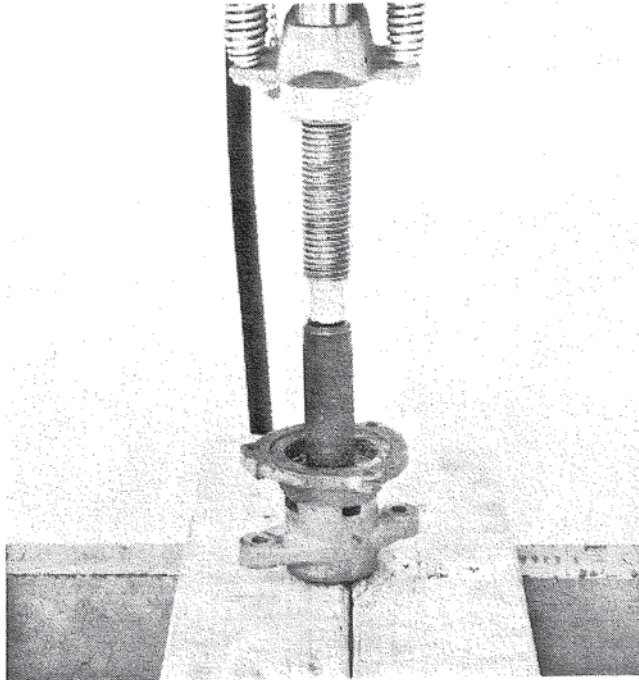

Figure 8. Installing Mechanical Seal.
- B. Install mechanical seal into bore of body until it bottoms out in bore. Figure 8.